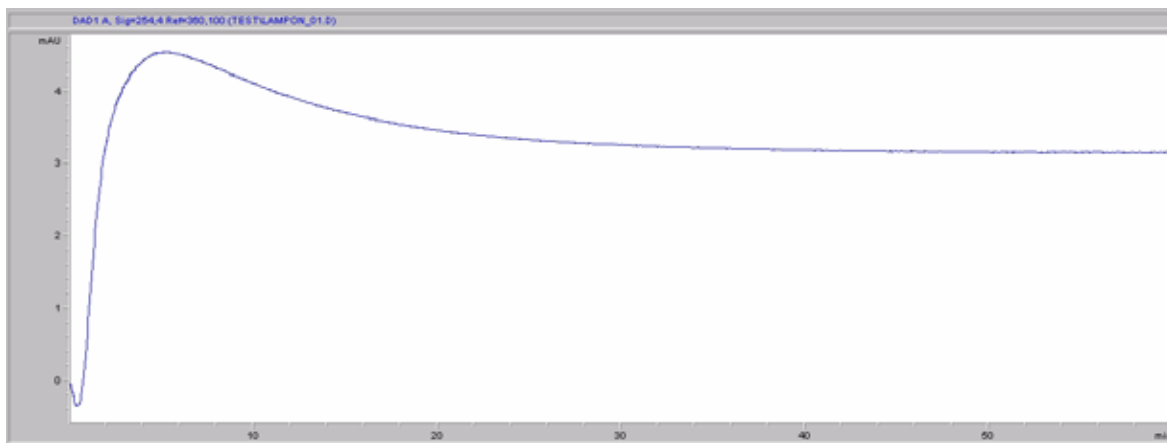

Figure 34 Stabilization of Baseline (both lamps turned on at the same time)
- 6 Allow the detector to warm up of at least 60 minutes to provide a stable baseline (see example in Figure 34 and Table 13).
Table 13 Baseline drift after lamp turn on (example from Figure 34)